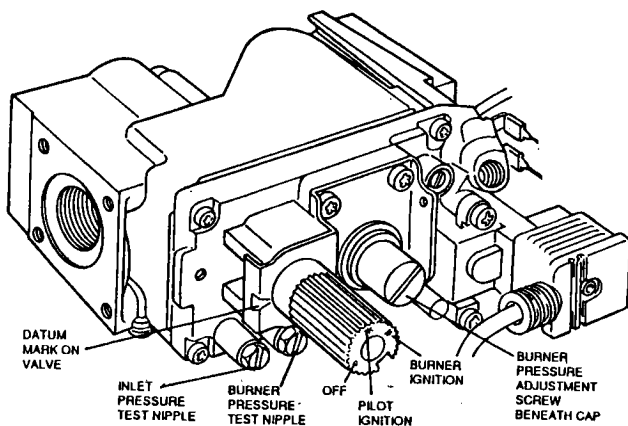
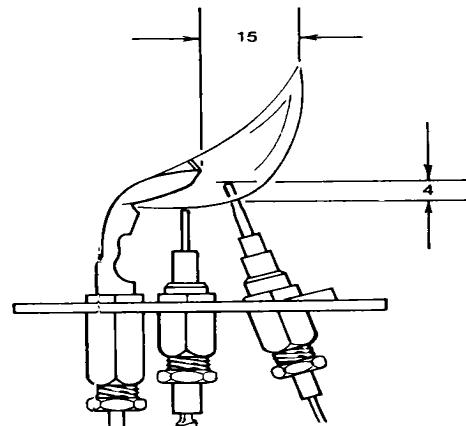

Figure 19 GAS CONTROL VALVE
Figure 20 PILOT BURNER
- F. Partly depress and turn the gas control knob clockwise ensuring the symbol • lines up with the datum mark on the gas valve body. See Fig 19. This ensures that the valve is in the 'OFF' condition.
- A. Remove the screw from the burner pressure test nipple on the gas control valve and fit a pressure gauge to the test nipple. See Fig 19.
- C. If burner pressure adjustment is necessary, remove the screwed cap from the gas control valve, see Fig 19, and turn the screw beneath clockwise to increase pressure and anti-clockwise to reduce pressure.
The pilot burner pressure is non-adjustable. The pilot flame should heat the thermocouple so that the pilot safety device is "held in" but must not cause the thermocouple to glow bright red. Fig 20 illustrates the approximate size of a correct flame. The E.M.F. generated by the thermocouple should be of the order of 20-30 mV open circuit, 10-14 mV closed circuit. Due to the voltage drop in the overheat thermostat circuit there should be 6.5-8.5 mV closed circuit at the connection to the gas control valve. Drop out should occur between 1-3 mV closed circuit. If these conditions cannot be achieved check that the inlet pressure is 20 mbar See Fig 19 for inlet pressure nipple. If this is correct contact Potterton Myson.